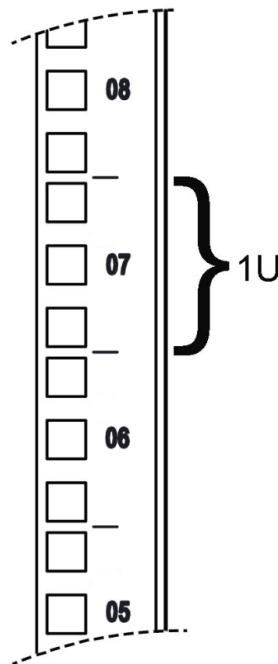

Figure 7.1.1
- Align equipment with the U number before securing the equipment to make sure the equipment is in the same position on each of the four mounting rails. (Figure 7.1.1)